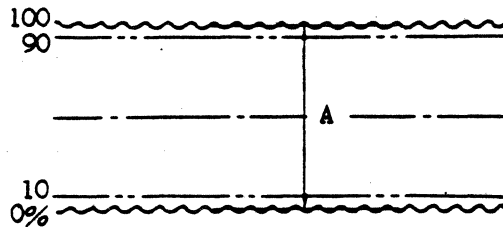

Figure 4-16 Head Load Signal "A"
5. Adjust Channel 2 output waveform, using the oscilloscope's ranges and variable gain controls, until the amplitude of Level "A" as shown in Figure 4-16 is equal to 5 divisions.